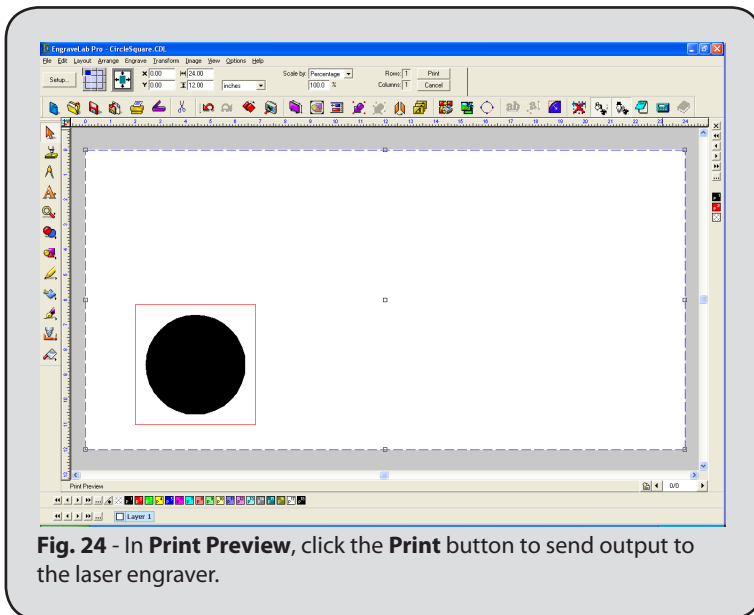

Fig. 24 - In **Print Preview**, click the **Print** button to send output to the laser engraver.
3. In **Print Preview**, click **Print** to begin engraving (Fig. 24).